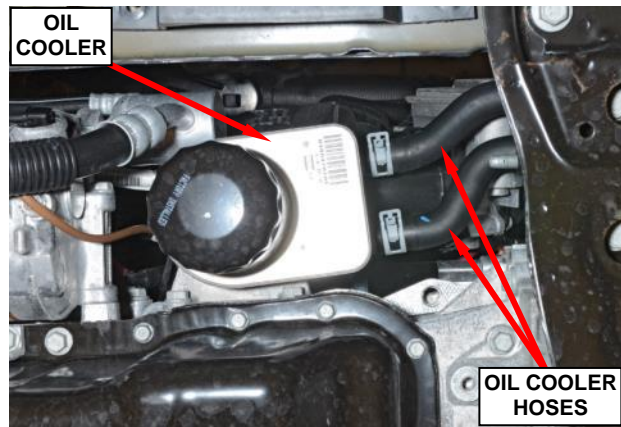

Figure 11 – Engine Oil Cooler
36. **For vehicles equipped with an engine oil cooler**, disconnect the coolant inlet and outlet hoses from the engine oil cooler (Figure 11).